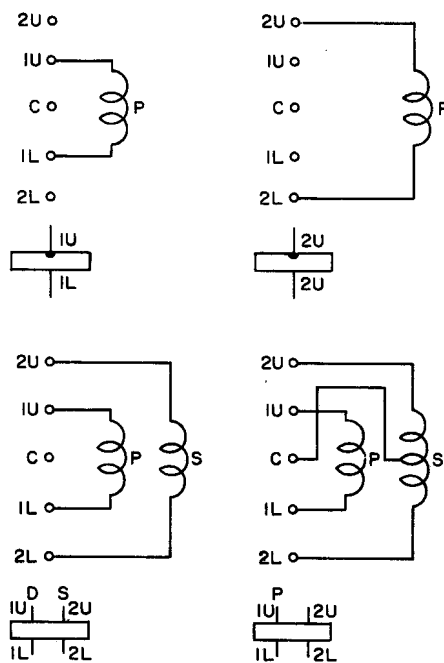

Fig. 18 – Typical Winding Arrangements for BF-, BJ-, and BL-Type Relays
**2.34 Winding Terminals:** Winding terminals are provided as required. As viewed from the rear the winding terminals are arranged in a vertical row to the left of the contact spring terminals as shown in Fig. 18. Referring to Fig. 18, the two upper terminals are designated 1U and 2U. The two lower terminals are designated 1L and 2L. On single-wound relays the winding may terminate on terminals 1 or 2. On double-wound relays the primary winding terminates on 1U and 1L and the second winding terminates on 2U and 2L. The center terminal designated C is used to terminate a tap on either the primary or secondary winding. Typical winding arrangements are shown in Fig. 18.